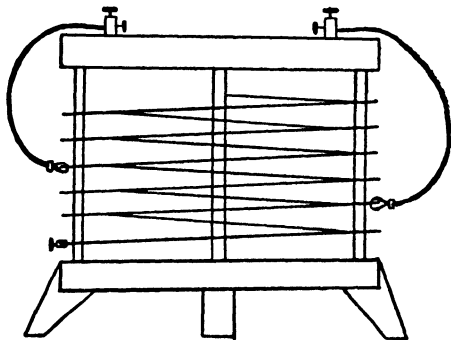

FIG. 47.—Oscillation helix.
**Oscillation Helix.**—Build a circular frame of wood about 10 inches high and 9 inches in diameter. Cut grooves in the uprights about  $\frac{7}{8}$  of an inch apart and wind in them  $\frac{1}{4}$  inch brass wire. Secure the wire by means of small claw tacks. Insert two binding posts in the wooden top and fasten one to the lower terminal of the wire. Short flexible leads with spring clips should be attached to the two upper posts as shown in Fig. 47.